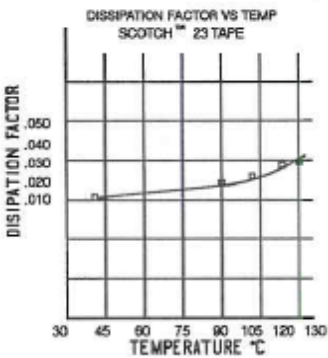

Figure 2
*Figure 2* shows the dissipation of Scotch® 23 tape. This test was run according to ASTM D-150 at a stress of 50 V/mil (2,0 MV/m) and a frequency of 60 cycles per second.